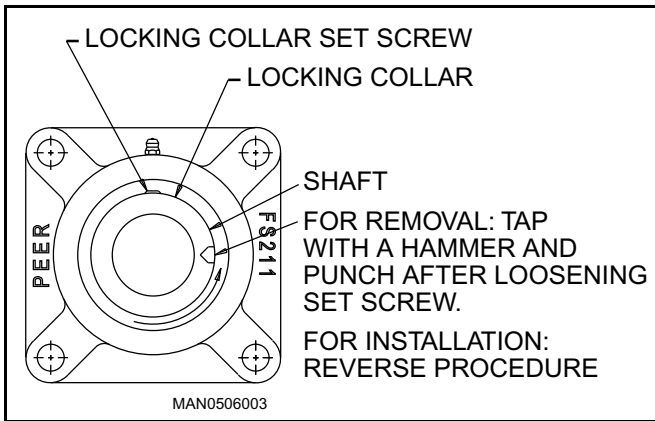

Figure 35. Locking Collar
2. Remove bearing locking collar (see Figure 35).
8. Reinstall bearing locking collar and tighten (see Figure 35).